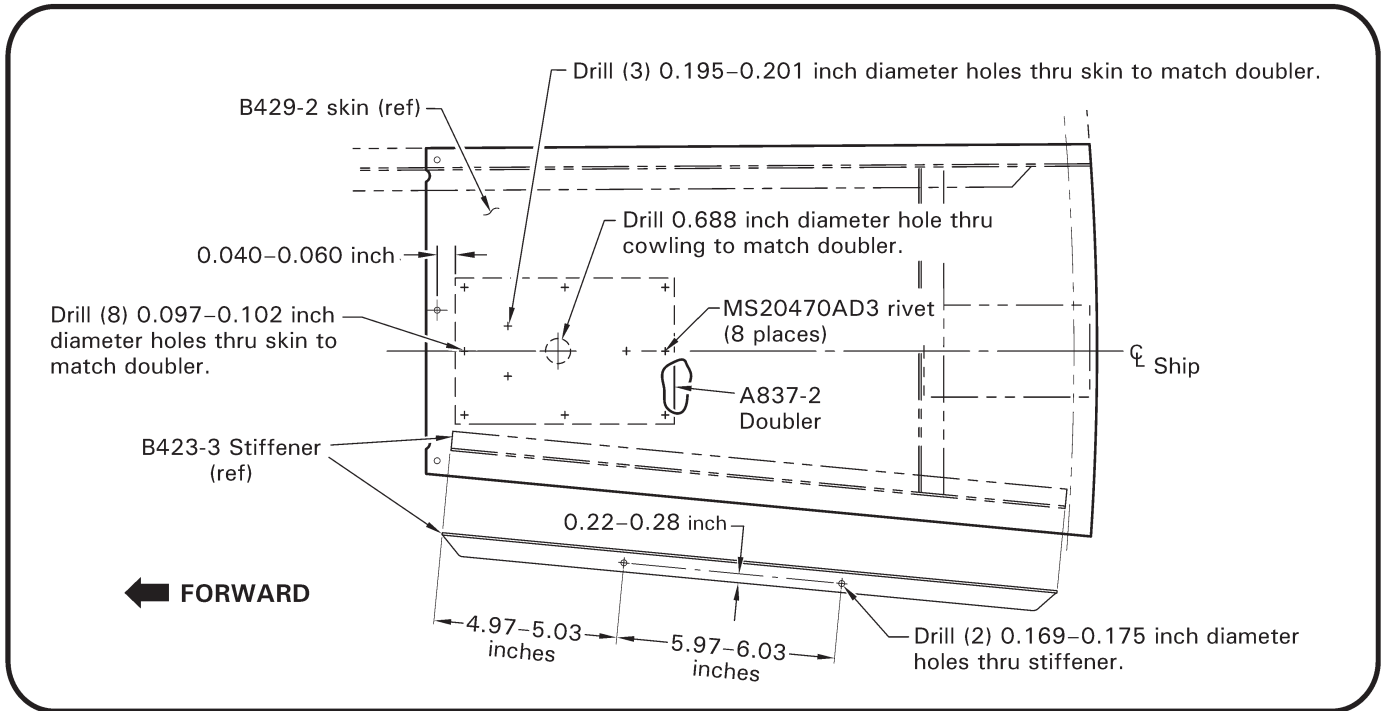

FIGURE 4A
13. **For new installation of ELT:** Refer to Figure 4A. Drill thru doubler's pilot holes with #40 drill and secure doubler to skin with a sheet fastener as each hole is drilled. Using doubler as a template, match drill center 0.688 inch diameter hole and three surrounding 0.190 inch diameter holes in skin. Remove doubler and deburr skin and doubler.
14. Refer to Figure 4A. Drill and deburr two 0.169–0.170 inch diameter holes in B423-3 (formerly A032-12) stiffener.